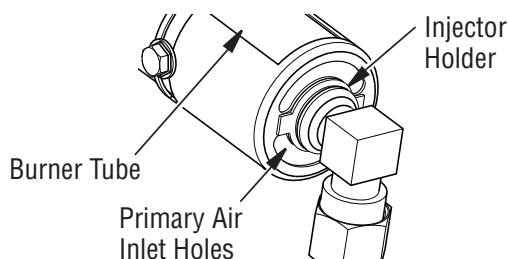

Figure 72 - Injector Holder On Outlet Burner Tube
2. Inspect burner, pilot and primary air inlet holes on injector holder for dust and dirt (*see Figure 72*).